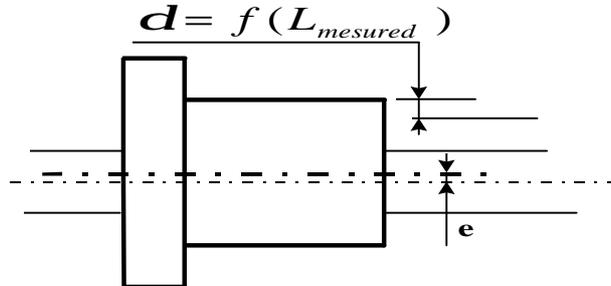

figure 2: Nut reference axis offset.
- The nut reference axis is never concentric with the ball bearing way. There is an offset between axes (**figure 2**).